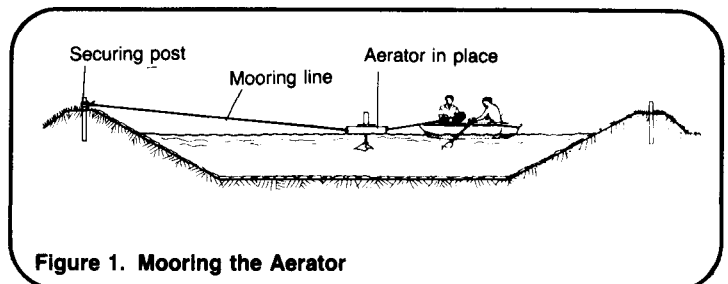

Figure 1. Mooring the Aerator
c) Attach the other mooring line to the aerator, take the line across the lagoon, and secure it to the post in the embankment. The mooring lines should be fairly taut, or else they may become fouled in the aerator's propeller during operation. See Figure 1.